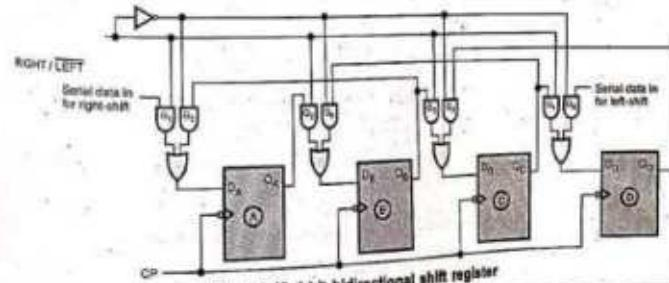

Fig. 5.8.13 4-bit bidirectional shift register
- Fig. 5.8.13 illustrates a four-bit bidirectional register.